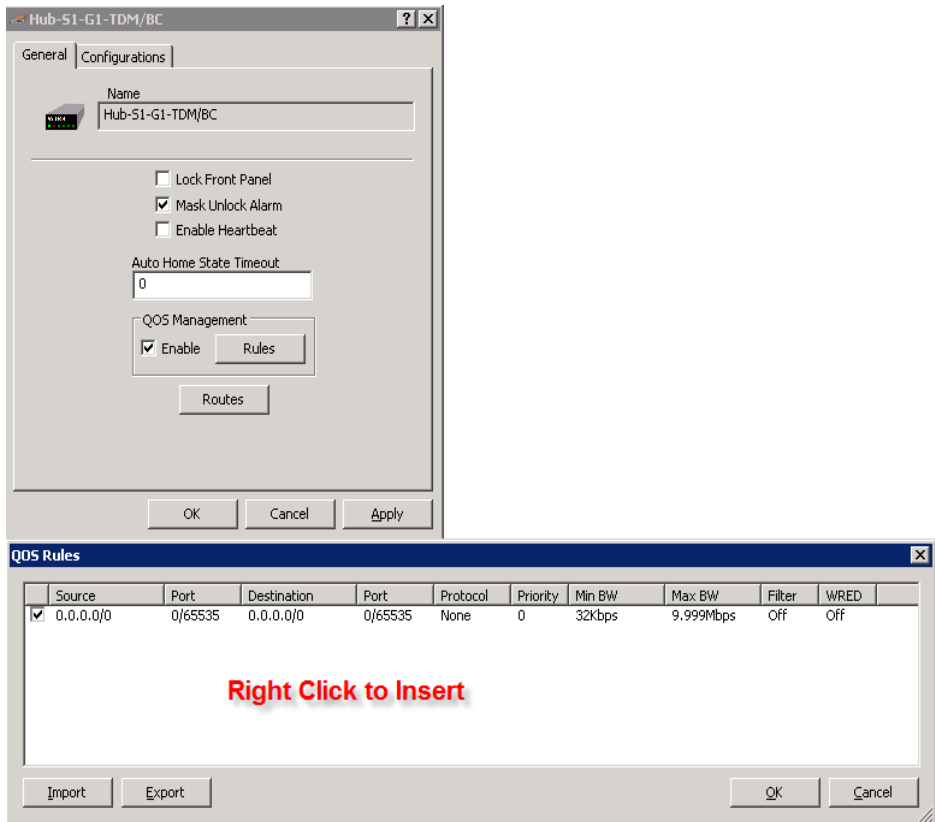

Figure 3-58 QOS Rules Configuration, CDM-570/570L
12. Enable QOS Management by checking the box, then click on the **Rules** button (figure 3-58).